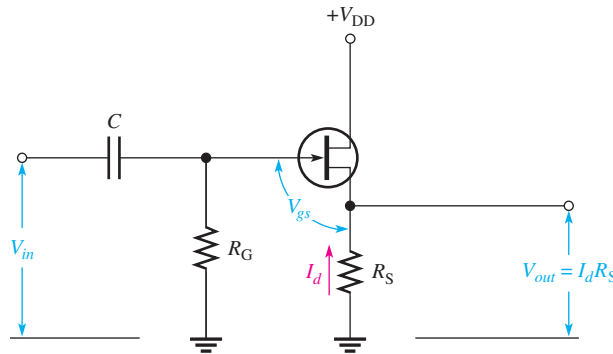

FIGURE 50
A **common-drain (CD)** JFET amplifier is shown in Figure 50 with voltages indicated. Self-biasing is used in this circuit. The input signal is applied to the gate through a coupling capacitor, and the output is at the source terminal. There is no drain resistor. This circuit, of course, is analogous to the bipolar emitter-follower and is sometimes called a *source-follower*.
**Voltage Gain** As in all amplifiers, the voltage gain is  $A_v = V_{out}/V_{in}$ . For the source-follower,  $V_{out}$  is  $I_d R_S$  and  $V_{in}$  is  $V_{gs} + I_d R_S$ , as shown in Figure 50. Therefore, the gate-to-source voltage gain is  $I_d R_S / (V_{gs} + I_d R_S)$ . Substituting  $I_d = g_m V_{gs}$  into the expression gives the following result: